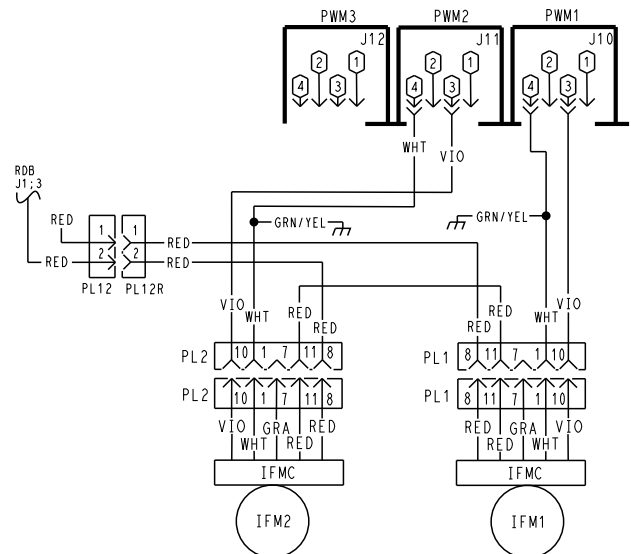

Fig. 9 — Supply Fan Control Wiring Diagram
6. Verify the J10 and J11 plug at the SystemVu board is wired per Fig. 9, connected tight, and wires are secured in the plug